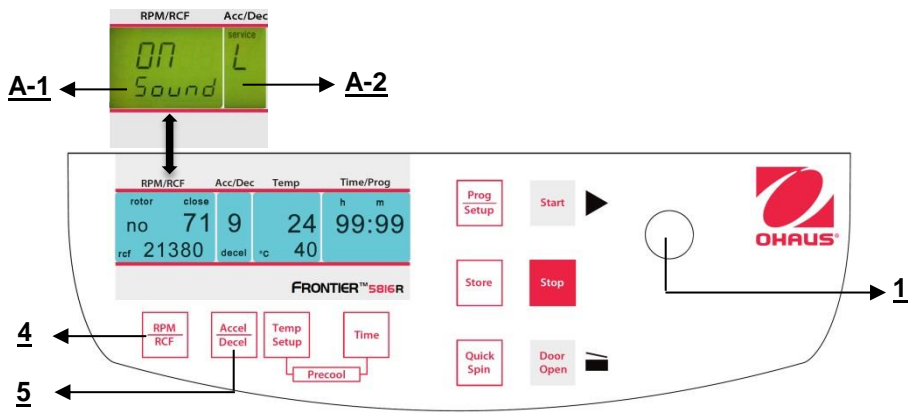

Figure. 32
Proceed as described under point 4.1.1 to enter this program mode and then press the key "Accel/Decel" (5). In the display "Acc/Dec" (A-2) the word "Service" flashes. Now select the letter "L" with the adjusting knob (1). As a result, the words "On Sound" appears in the display "RPM | RCF" (4). If you press the key "RPM | RCF" (4) now, the word "On" flashes and you can switch off the sound with the adjusting knob (1) (See figure 32). After you have stored the settings (See 4.1.1) you change back to the normal program mode again by switching off the centrifuge for a short while.